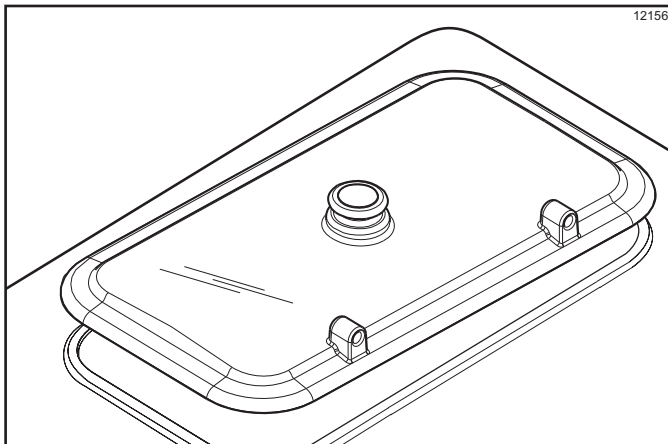

Figure 6-44
7. Install the agitator back onto the agitator driveshaft housing. Replace the hopper cover. (See Figure 6-44.)